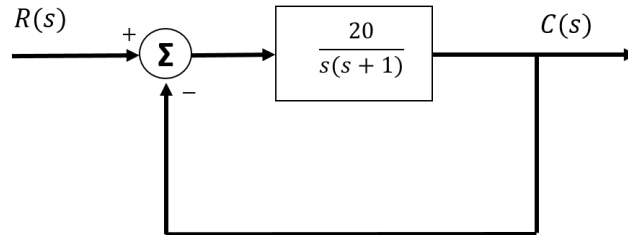
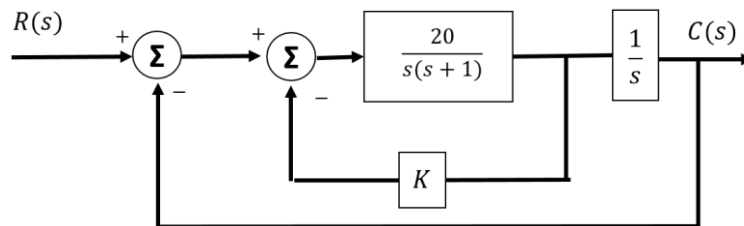

Figure 2
Figure 3
- 2A.** Consider the system shown in Figure 2. To improve the performance of the system a feedback is added to this system, which results in Figure 3. Determine the value of K so that the damping ratio of the new system is 0.4. Compare the overshoot, rise time, peak time and settling time and the nominal value of the systems shown in Figures 2 and 3. (05)